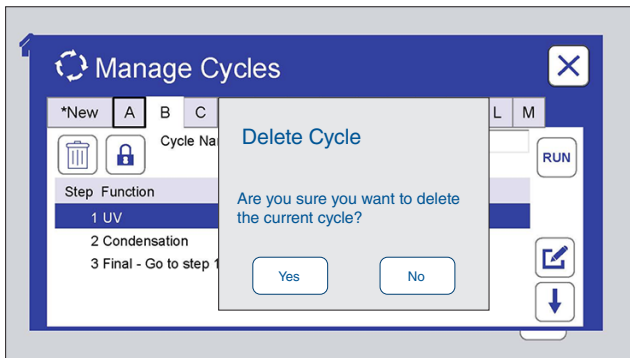

Figure 9.6.2c: To delete an inactive cycle, the operator is prompted for verification. Touch No to cancel delete. Touch Yes to create a blank cycle.
- Deleting an inactive cycle will create a blank cycle with only a final step (Figure 9.6.2c).